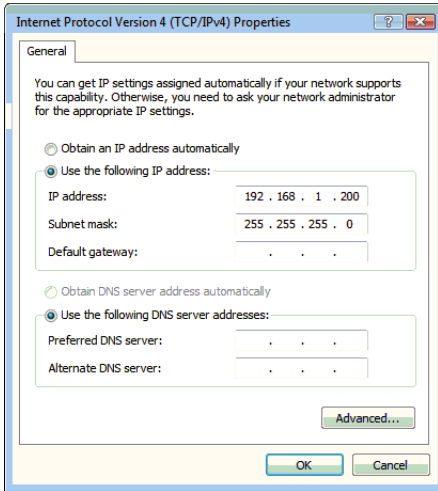

Figure 7-7 Internet Protocol Version 4 (TCP/IPv4) Properties
4. Select Internet Protocol Version 4 (TCP/IPv4), then click the Properties button. The PC displays the Internet Protocol Version 4 (TCP/IPv4) Properties window (Figure 7-7).